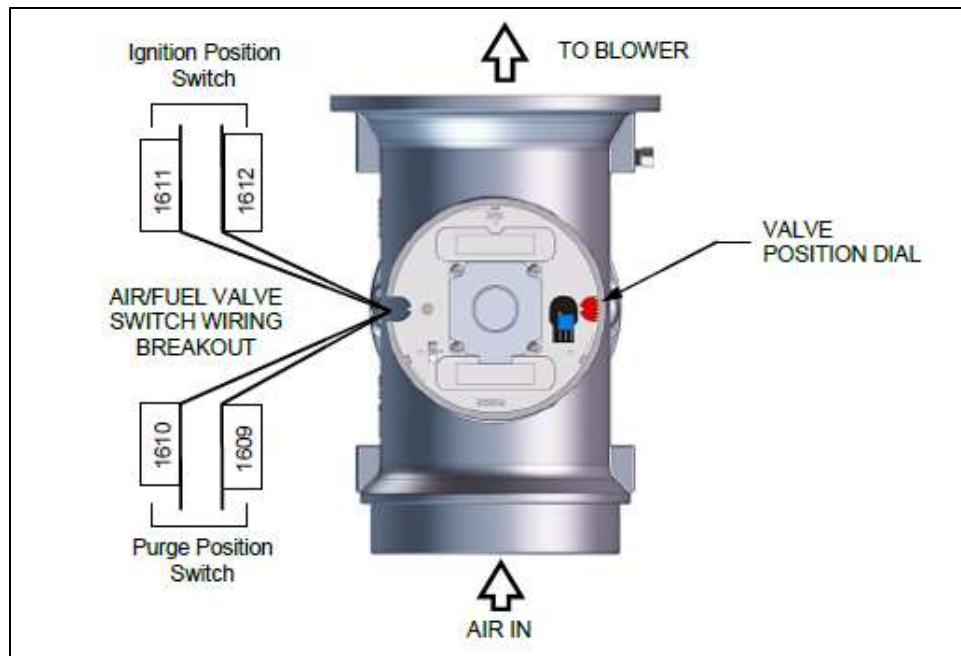

Figure 6-11: Air/Fuel Purge and Ignition Locations
5. Remove one of the two wires (#1609 or #1610) from the Purge switch (**Figure 6-11**).
5. Remove wire #1611 or #1612 from the Ignition switch (**Figure 6-11**).